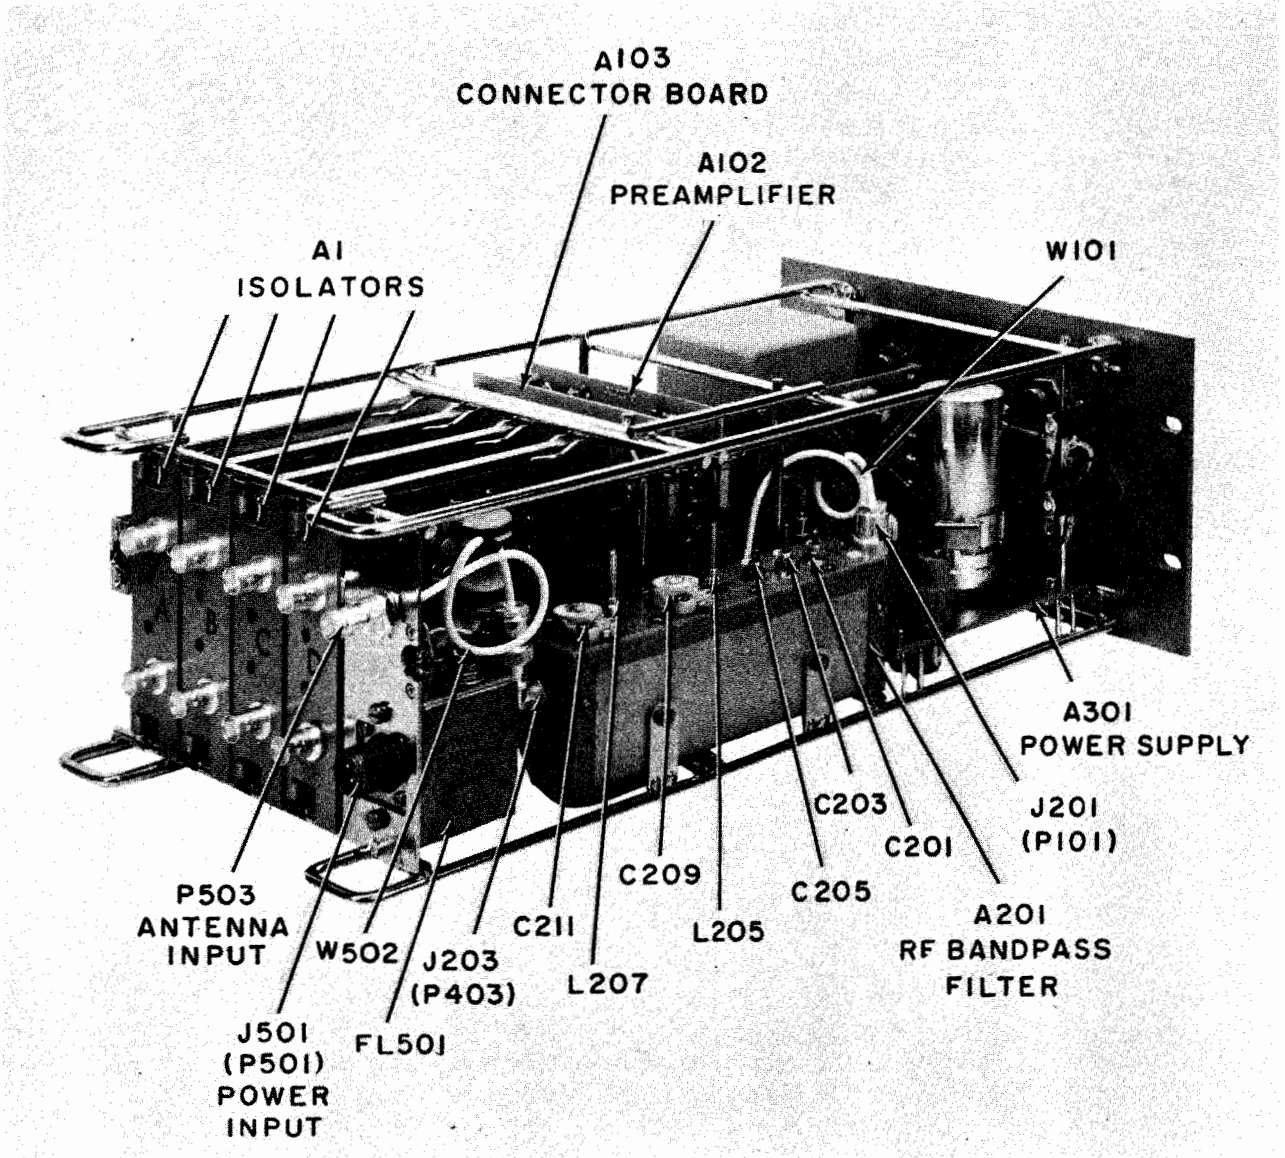
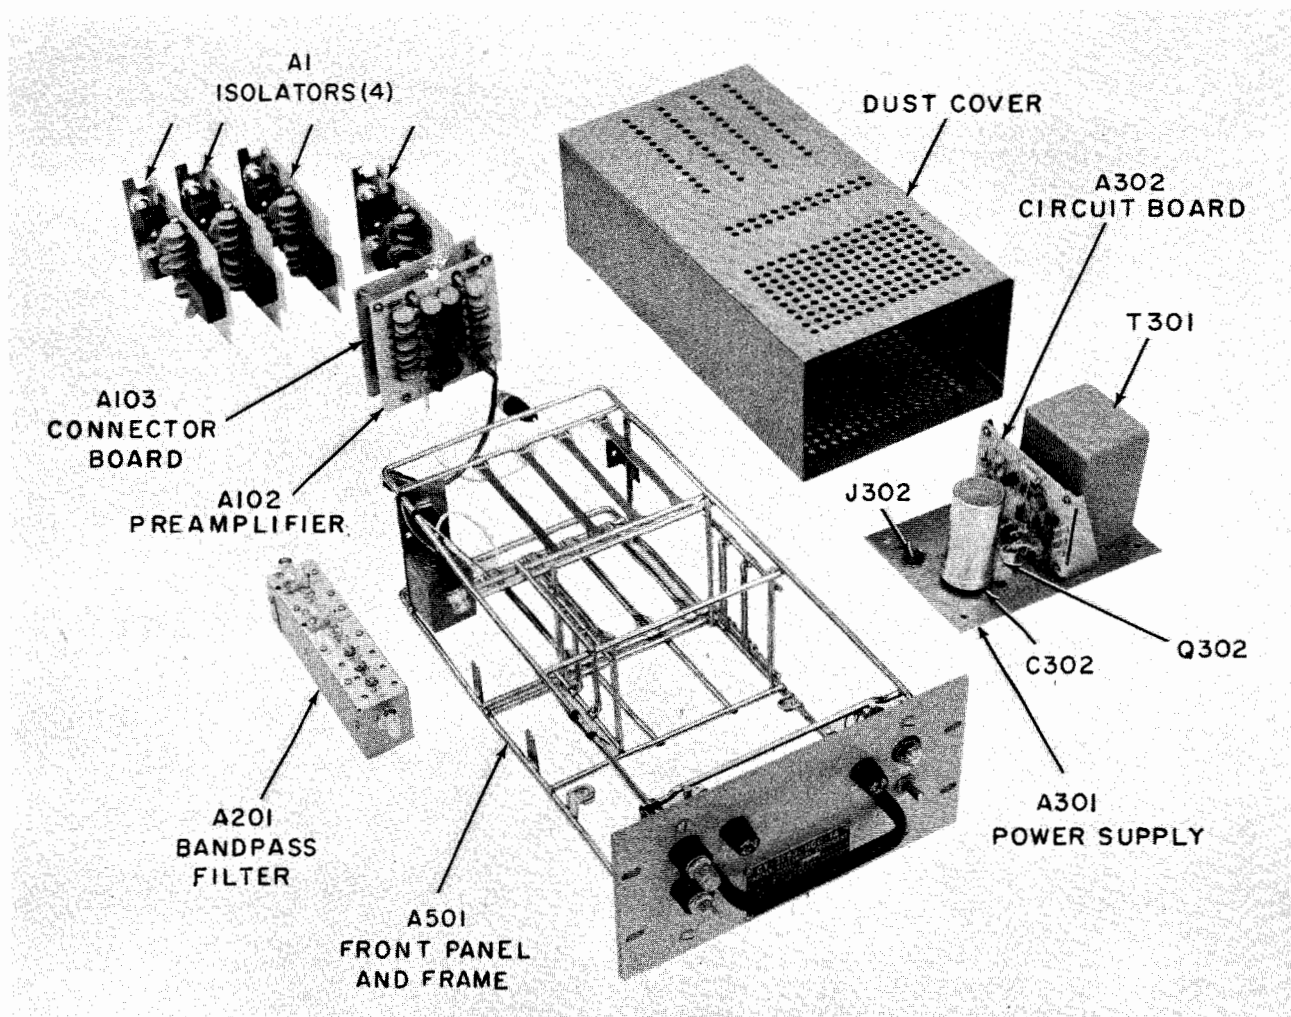
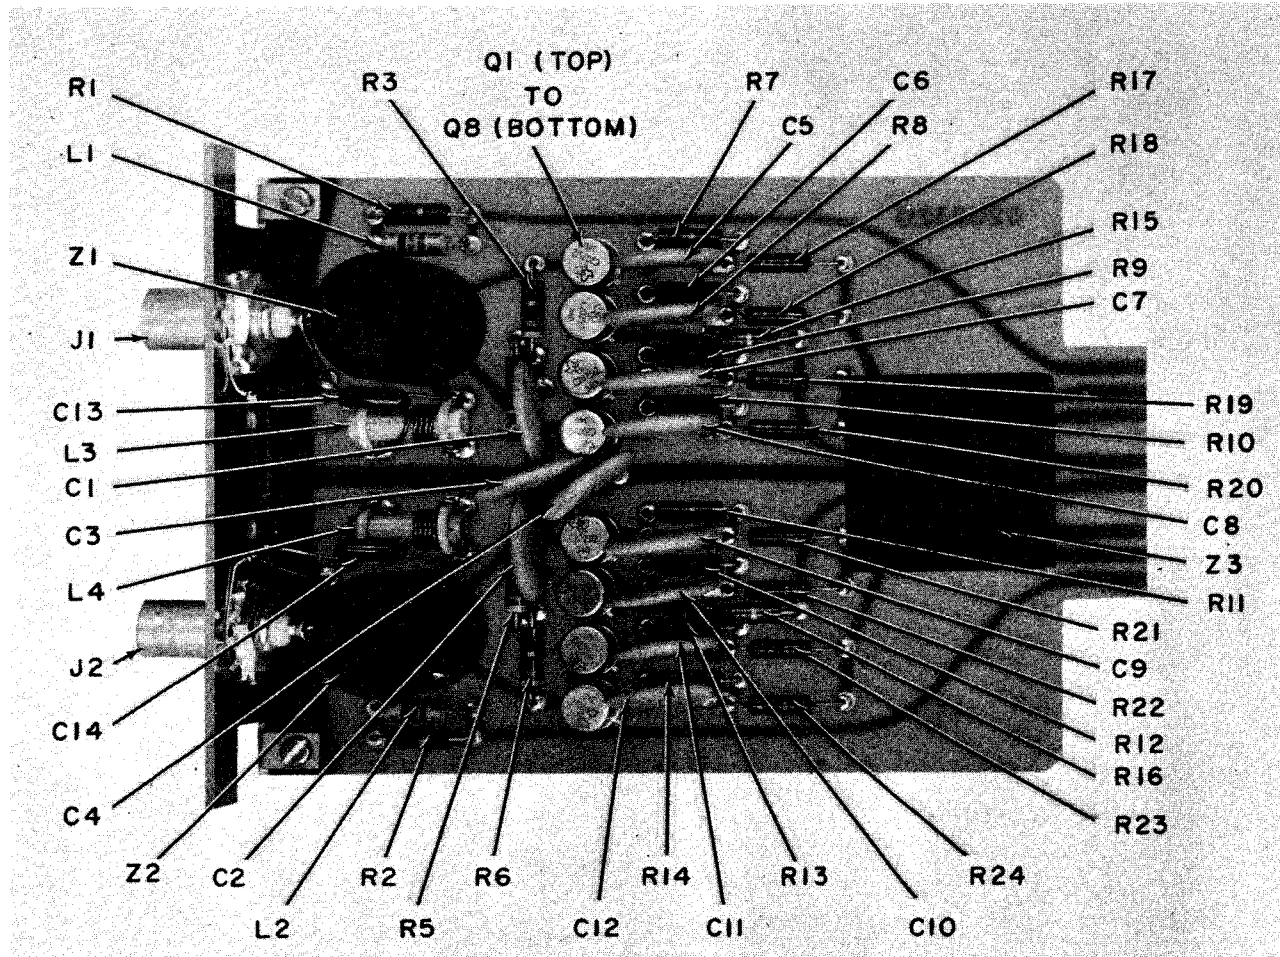

Figure 5-5. Rear View, Dust Cover Removed
Figure 5-6. CU-1099/FRR, Disassembled
Figure 5-7. Isolator Assembly A1
a. OVERALL ASSEMBLY. Figure 5-5 shows a rear view of the CU-1099/FRR with all components in place and the dust cover removed. As shown in figure 5-6, all assemblies which comprise the unit can be removed.
c. ISOLATORS (see figure 5-5). Components on the isolator circuit board are identified in figure 5-7. All four of these assemblies are mechanically identical but each is electrically aligned for the
d. PREAMPLIFIER - CONNECTOR BOARD ASSEMBLY. This assembly (see figure 5-5) stands upright across the unit directly in front of the isolators. It is held in position by spring loaded slides.
e. BAND-PASS FILTER. This assembly is mounted on the left side of the frame (see figure 5-5). It has two plugs for cable connectors. J201 connects to the preamplifier cable W101, and J203 connects to P403 on the antenna input cable W502.
f. POWER SUPPLY A301. All components which comprise the power supply are mounted on a plate directly behind the front panel (see figure 5-5). Four right angle brackets with welded nuts provide mounting for the plate. Components on the power supply circuit board A302 are silk screened on the board, other components are identified in figure 5-6.